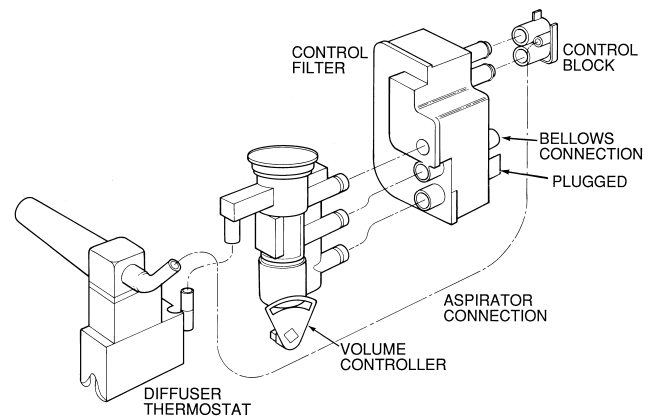

Fig. 37 — 37HS Control Connections
- a. Refer to Fig. 37. Moisten the O-rings of the volume controller with water and push the controller directly into the filter.
- b. Refer to Fig. 37. Moisten the O-rings of the volume controller with water and push the controller directly into the filter extensions.